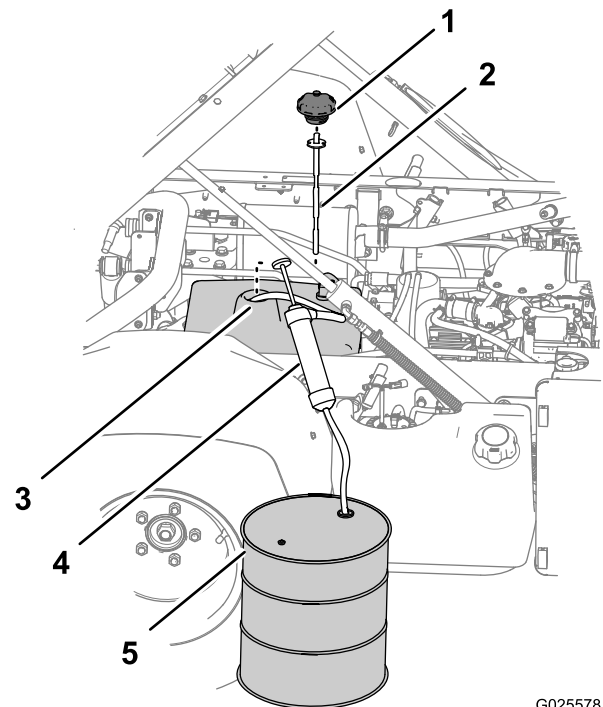

Figure 91
3. Remove the cap and dipstick from the filler neck of the reservoir (Figure 91).
4. Route the intake hose of the siphoning equipment through the filler neck of the hydraulic reservoir and to the bottom of the reservoir (Figure 91).
5. Direct the discharge hose of the siphoning equipment into a collection container (Figure 91) with a 11.4 L (3 US gallon) capacity—Non-TC model or 18.9 L (5 US gallon) capacity—Non-TC model with the High Flow Hydraulic Kit (option) or TC model.
7. Remove the siphoning equipment from the reservoir (Figure 91).
8. Add 7.5 L (2 US gallons)—Non-TC model or 15.1 L (4 US gallons)—Non-TC model with the High Flow Hydraulic Kit (option) or TC model of the specified hydraulic fluid into the hydraulic reservoir (Figure 91).
9. Install the dipstick and cap to the filler neck of the hydraulic reservoir (Figure 91).